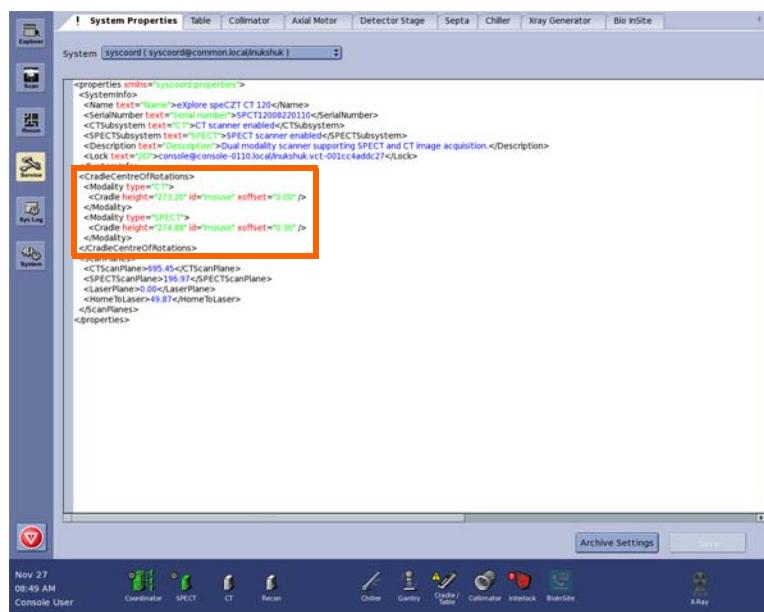

Figure 7-128
16. Return to the Console and navigate to the service page. Click the System Properties tab and select syscoord from the drop down list (Figure 7-128). Within the system coordinator's properties, find the Cradle Center Of Rotations element: